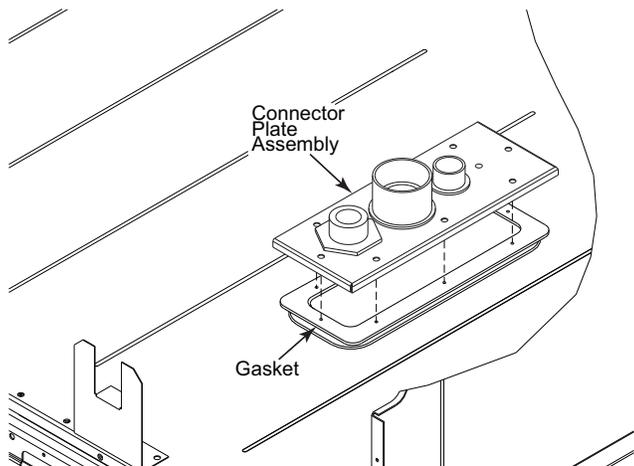

Fig. 25 — Completing Installation of Thru-the-Base Option
4. Place the gasket over the embossed area in the basepan, aligning the holes in the gasket to the holes in the basepan. See Fig. 25.